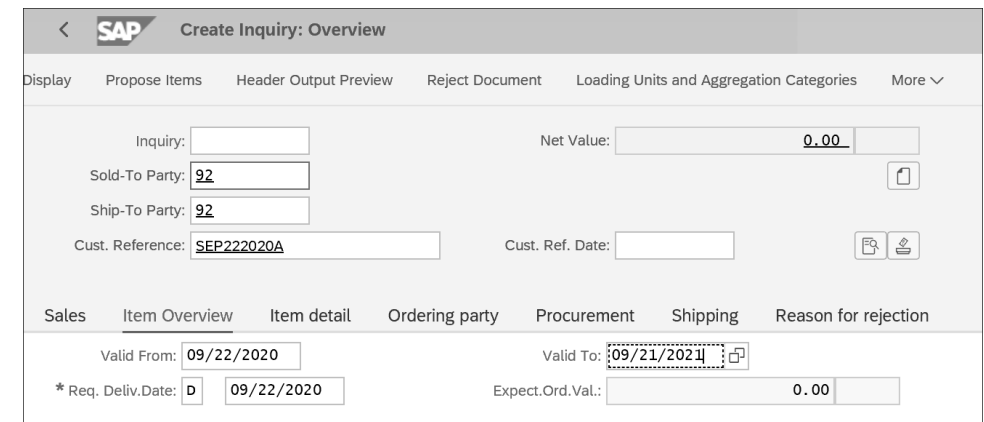

Figure 4.24 Create Inquiry: Header Data in SAP Fiori
3. In the **Create Inquiry: Overview** screen, input the header data as shown in Figure 4.24. Press **Enter**.